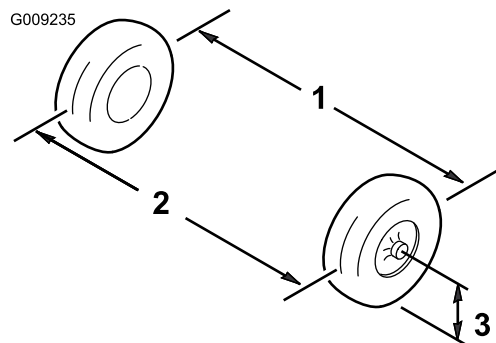

Figure 40
2. Measure the distance between both of the front tires at the axle height at both the front and rear of the front tires (Figure 40).